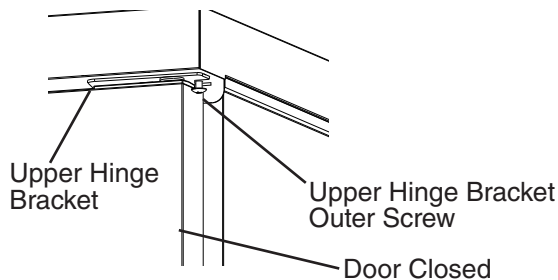
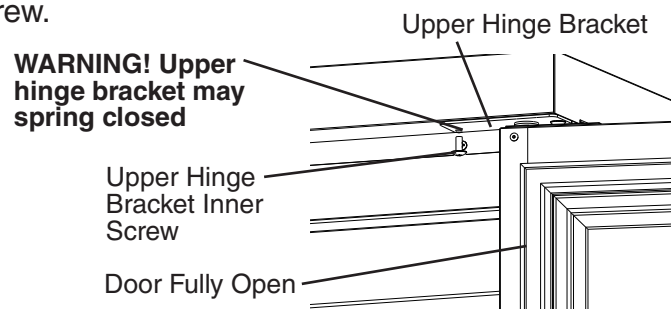

Fig. 10
Fig. 11
- 2) With the door closed, loosen, but do not remove, the upper hinge bracket outer screw. See Fig. 10. Next, open the door to the fully open position and remove the upper hinge bracket inner screw. See Fig. 11.